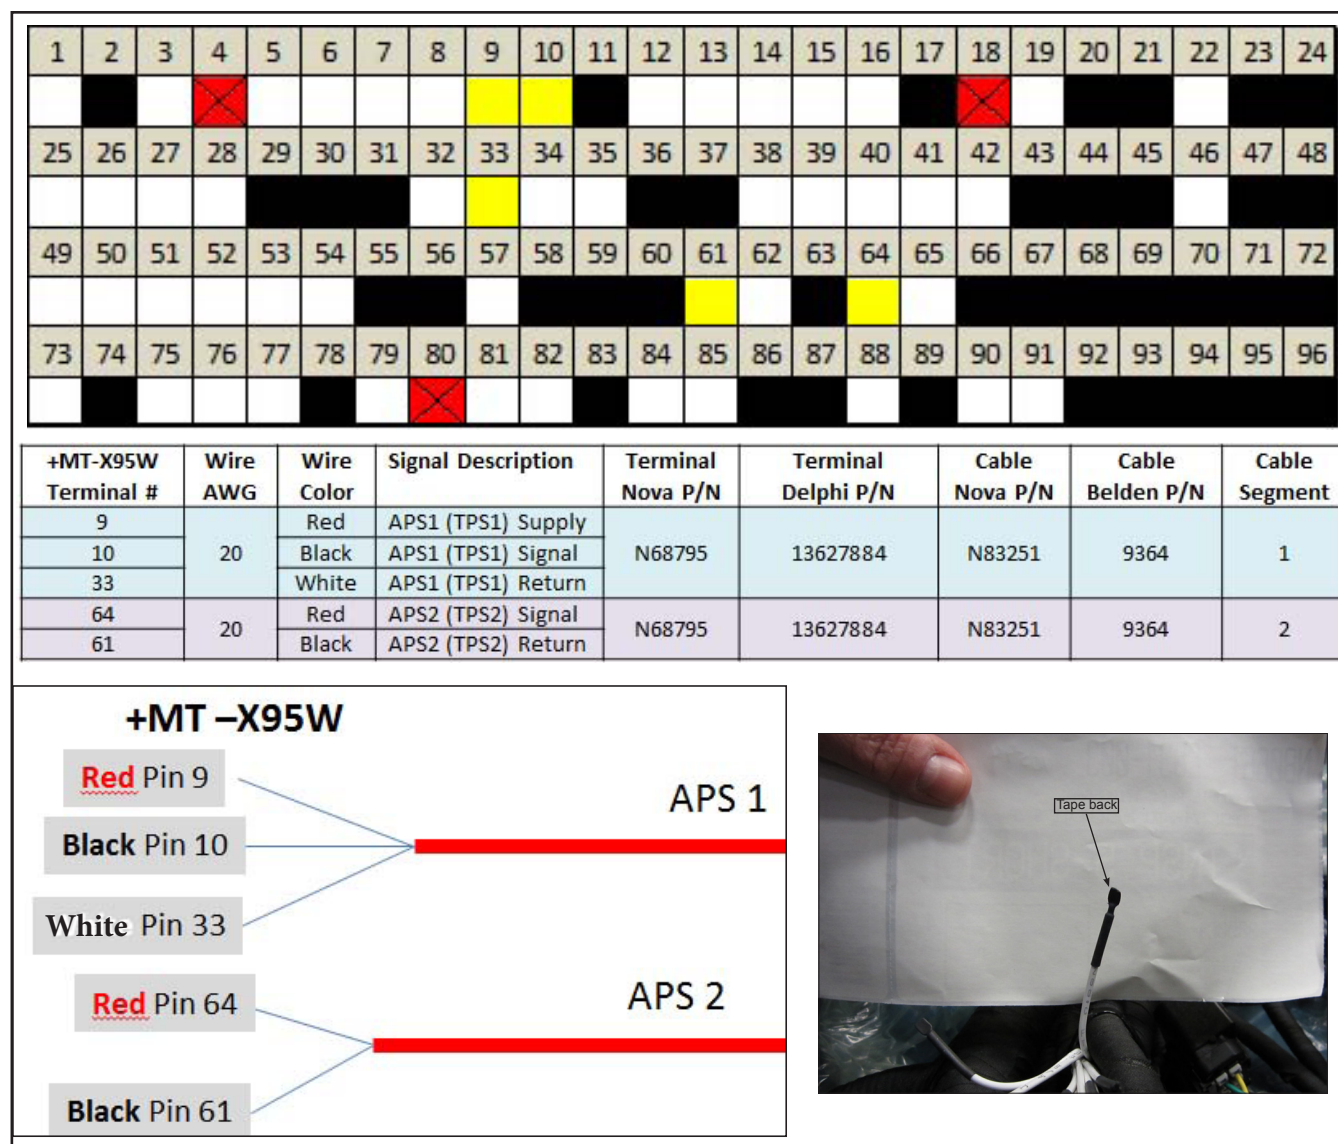

Figure 5 - Extract the Wires From the ECM Connector
- 1.5. Cut and tape back using N27548-18 all wires that were disconnected. For APS 1 use positions 9, 10 and 33. For APS 2 use positions 61 and 64. Install the five new wires of the bypass cable wire kit. Reassemble the ECM connector and lower the vehicle (see Figure 5).